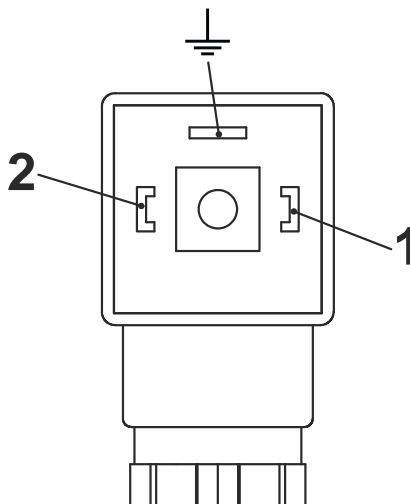
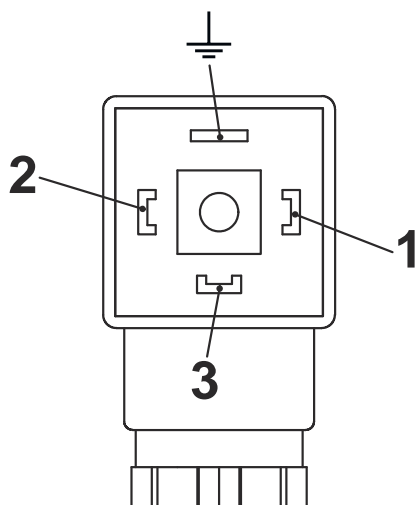

Fig. 26: Pin assignment, plug socket, normally-open contact (SG-15 with connector in compliance with EN 175301-803)
Fig. 27: Pin assignment, plug socket, change-over contact (SG-15 with connector in compliance with EN 175301-803)
6. ➔ Make the connections as shown in the connecting diagram (Fig. 26 and Fig. 27)